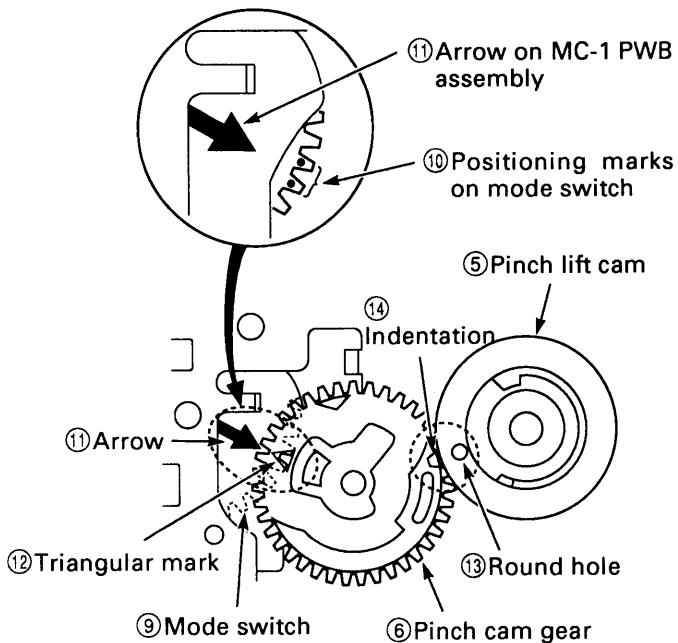

Fig.3-9-3
1. Apply grease (VHJ-0100) around the shaft ⑦, all over the teeth ⑧ of the pinch cam gear ⑥, all over the teeth of the pinch lift cam ⑤, all over the cam grooves ⑨, and all over the "V Part ⑩" of the opener mounting ③. Apply grease (VHJ-0101) to the outside of the shaft ⑧ and all over the top cam ⑪ of the pinch cam gear ⑥.
2. Check that the positioning mark ⑫ on the mode switch ⑬ is aligned with the arrow ⑭ on the MC-1 PWB assembly, as shown in Fig.3-9-3. Then align the triangular mark ⑮ on the pinch cam gear ⑥ with the arrow ⑪ on the MC-1 PWB assembly. After that, align the round hole ⑯ on the pinch lift cam ⑤ with the indentation ⑰ on the pinch cam gear ⑥.